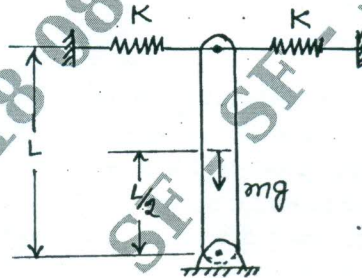

Fig.Q2(b)
- b. Determine the natural frequency of the vertical bar assuming the mass of the bar as 'm' with two unstretched springs as shown in the Fig.Q2(b). Is there any limitation on the value of 'K'. (10 Marks)